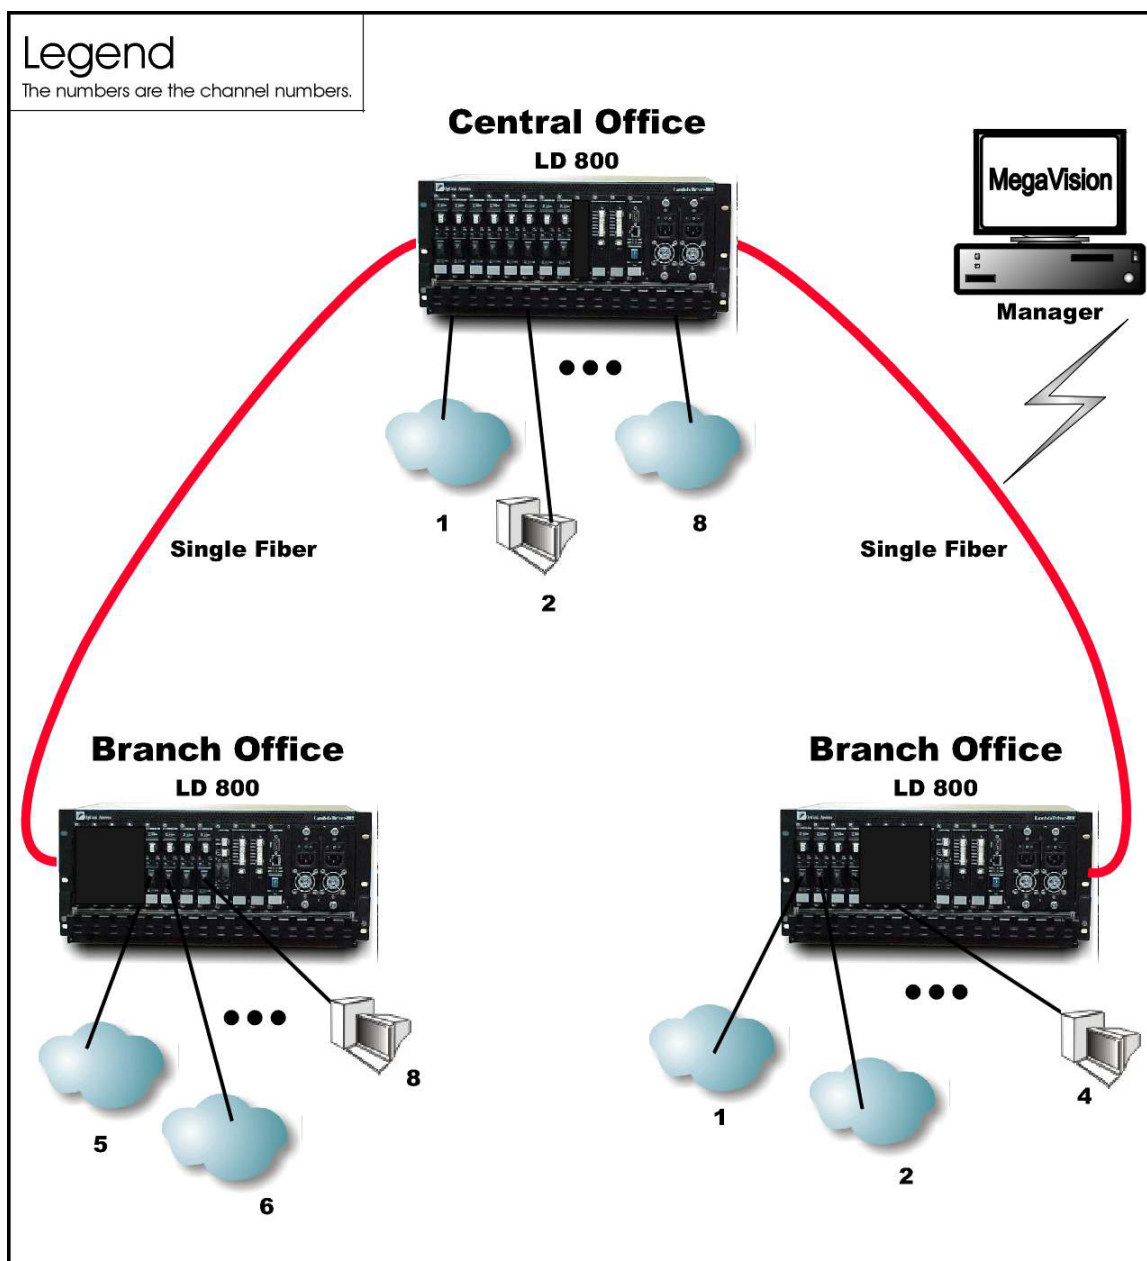

Figure 28: Star with up to 4 Full-Duplex Channels
In the Star Network topology (example shown in *Figure 28*), up to 8 channels can be created across the network, which uses single-fiber cables. This means that up to 16 access-equipment units (e.g., LANs, PCs, etc.) can be interconnected with this network topology – two per channel. All channels run from the Branch Office (BO) LDx00s to the Central Office (CO) LDx00, i.e., no channels exist between the BOs.